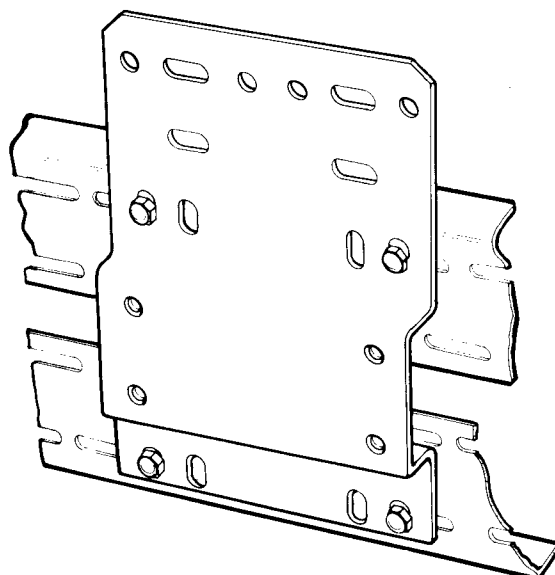

Fig. 7 Fitting of plate, mounting to equipment rack
1. Bolt the plate, mounting (5820-99-637-0882) to a convenient position on the equipment rack adjacent to the radio as in fig. 7 using 4 off M8 x 20mm bolts, nuts and washers from the attached linen bag. This position must be such that the one metre cable from the DCCU will easily reach the radio set.